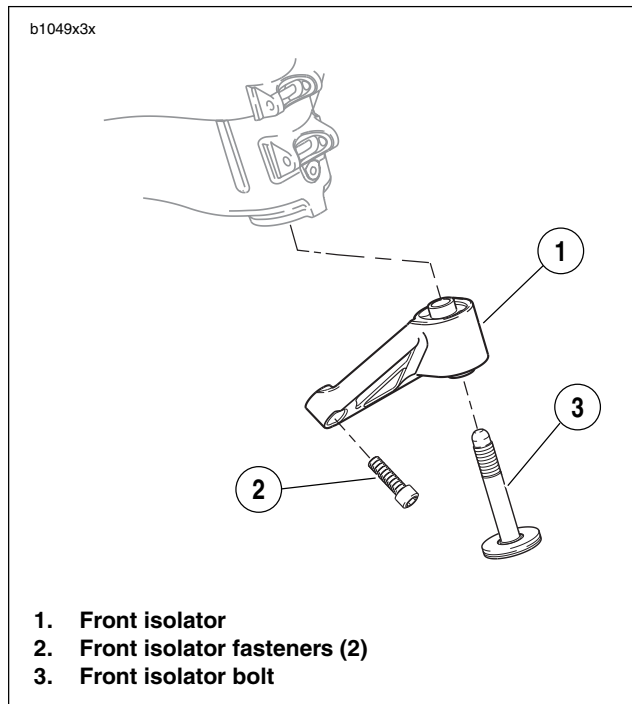

Figure 3-45. Front Isolator
10. See Figure 3-45. Insert front isolator bolt (3) through front isolator (1) and loosely thread into frame. Do not tighten at this point.
11. Install isolator mounting fasteners (2) and tighten to 49-51 ft-lbs (66.4-69.1 Nm).